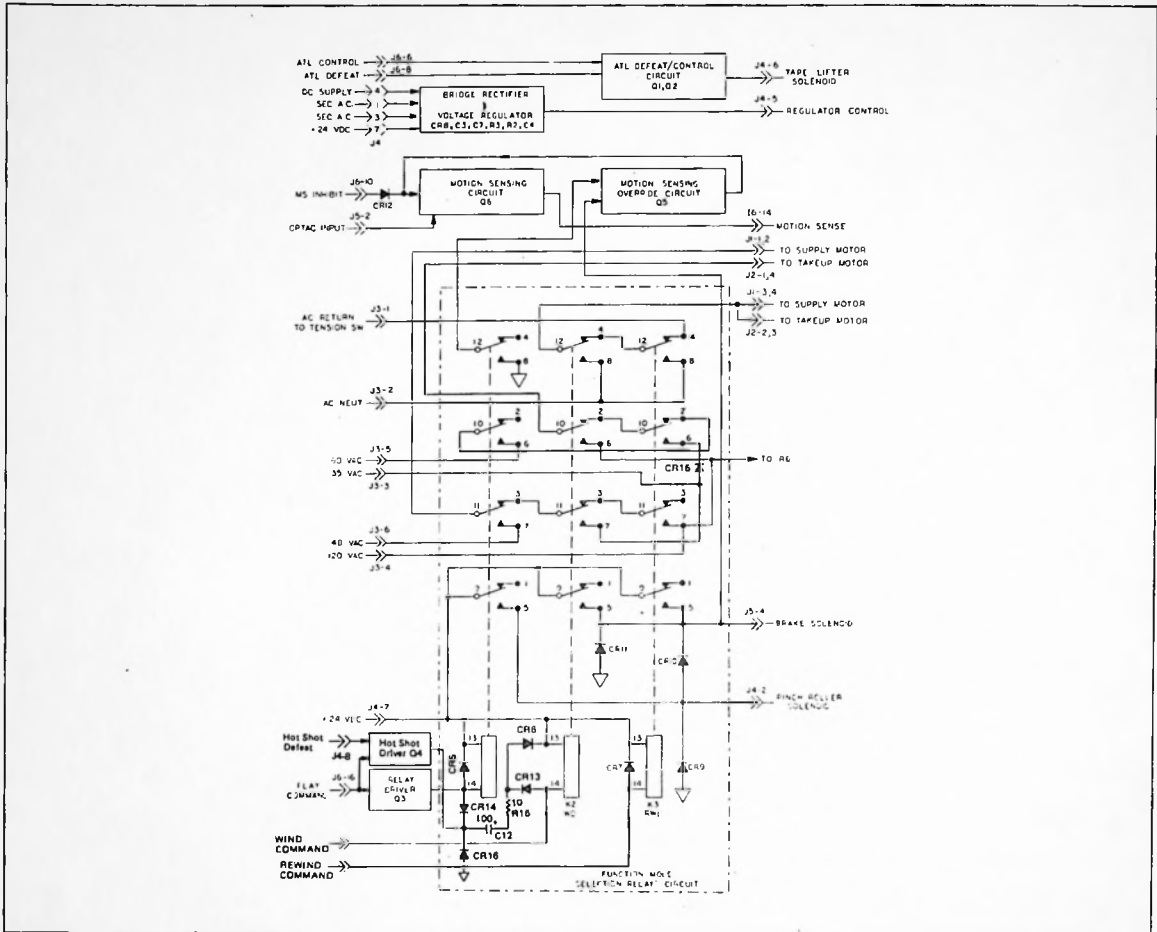

Figure 6-5. Power Supply and Control Functional Block Diagram
6.16 The Power Supply and Control PWA contains the relays that apply the appropriate voltages to the supply and takeup motors when a transport function mode is selected. This PWA is also responsible for activating and deactivating the solenoids for the pinch roller, tape lifter, and brakes. The Power Supply and Control PWA consists of: (1) function mode selection relays K1, K2, K3; (2) motion sensing circuit Q6; (3) motion sense inhibit circuit Q5; (4) ATL defeat/ATL enable circuit Q2, Q1; (5) bridge rectifier CR8/voltage regulator circuit C3, R3, C4, R2; (6) hot shot circuit Q4, C12, CR13, CR14; (7) ready threaded status circuit Q7; and associated components. Figure 6-5 shows a simplified functional block diagram of the Power Supply and Control PWA. (See schematic diagram Figure 8-7.)